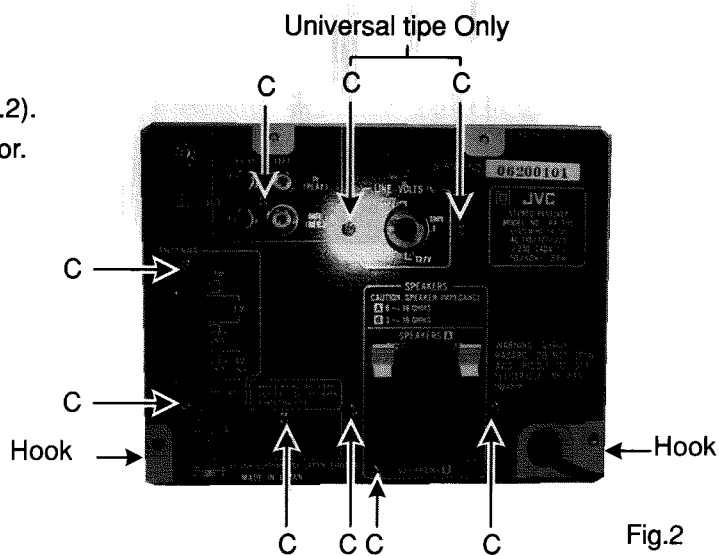

Fig.2
- 1.Remove 7 screws(C)fastening rear panel(Fig.2).